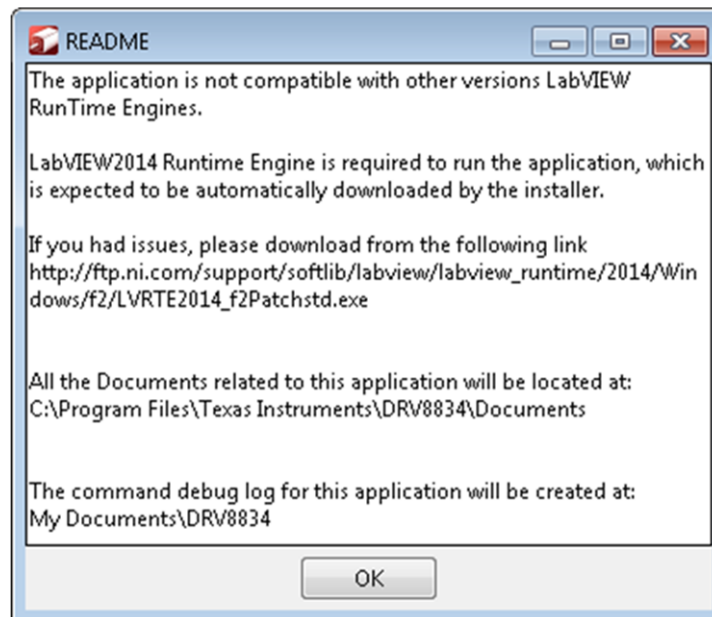

Figure 19. Readme Window
20. A Readme window as shown in Figure 19 appears displaying the link for LV 2014 RTE.